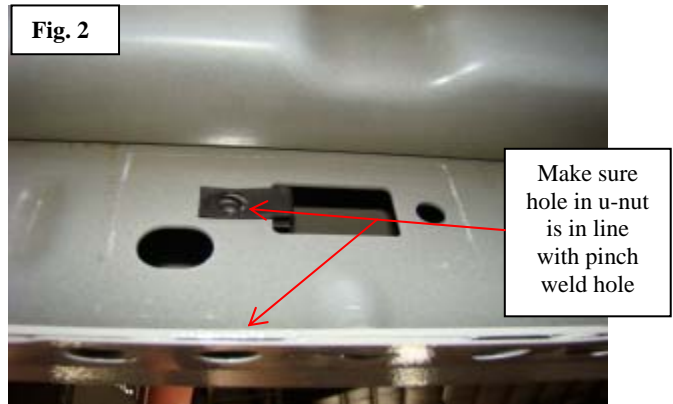

Fig. 2
Step 3: For the front and rear bracket locations, (1st & 5th locations), you will need to install a 5/16" long u-nut to attach the bracket to the rocker panel. Make sure that the u-nut lines up with the factory hole in the pinch weld. **See figure 2.**